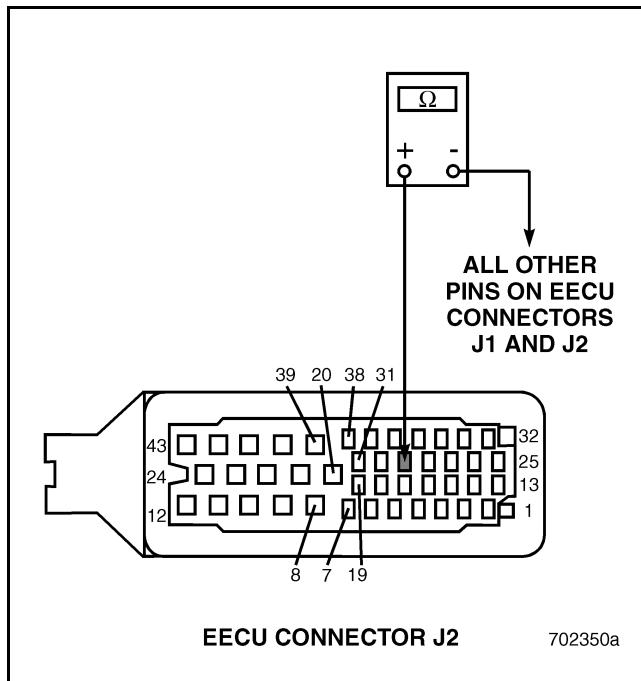

Figure 78
4. Check for continuity between EECU harness connector J2 pin 29 and all other pins on EECU connectors J1 and J2 (see Figure 78).